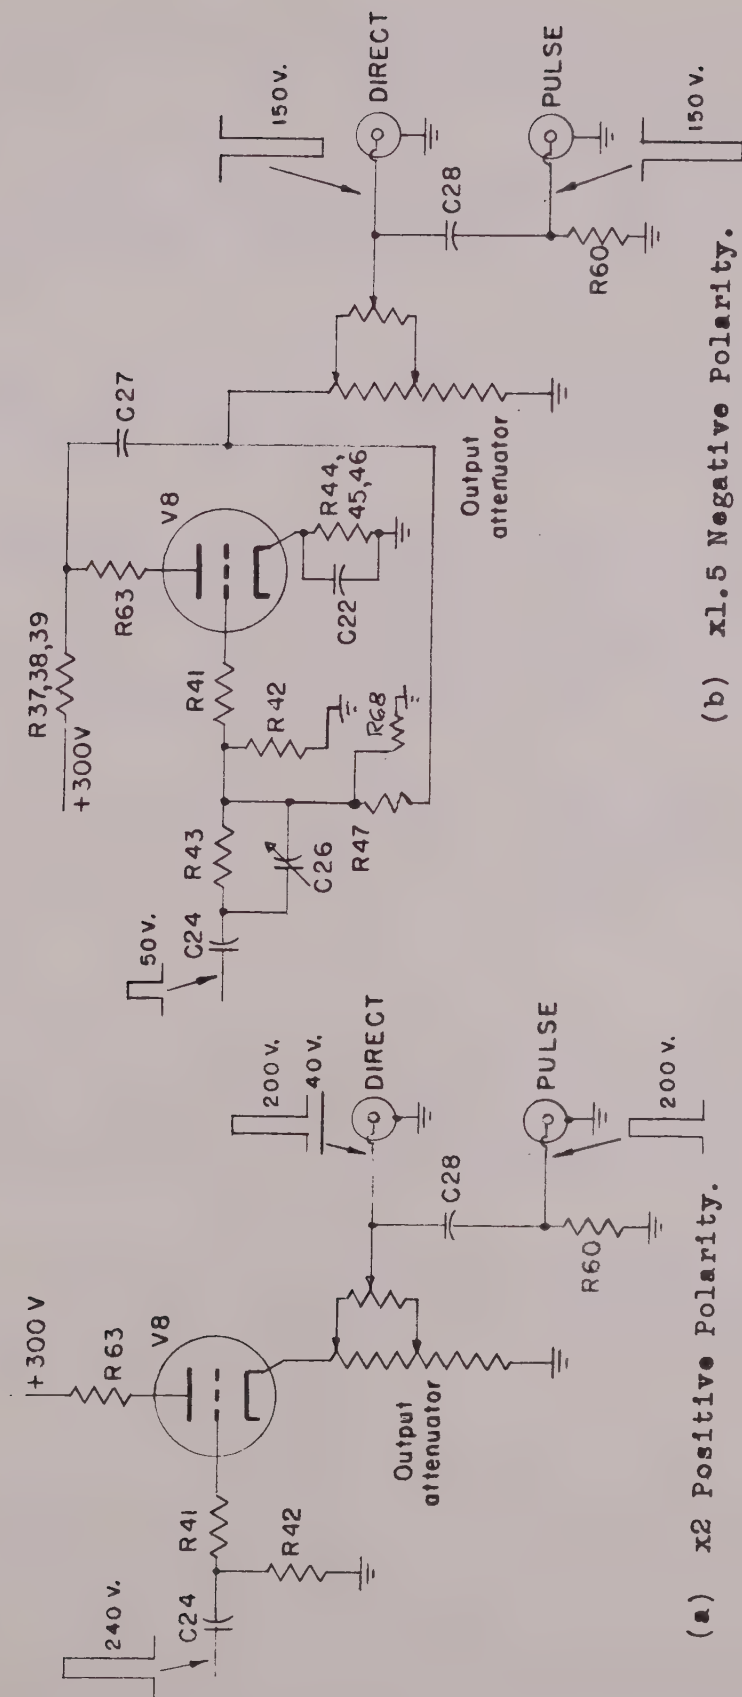

Fig. 5. Functional Schematic, Output Amplifier.
a. The output amplifier operates either as a cathode follower or straight amplifier, depending upon the desired polarity of the output pulse. A simplified circuit is shown in figure 5. During the quiescent period, the cathode of tube V8 assumes a positive potential with respect to the grid and reduces plate current to a low value.
- (1) When the polarity switch is in the positive position, figure 5 (a), this surge of plate current increases the potential drop across the output attenuator and a positive pulse is delivered to the output terminals. It will be noted that the pulse delivered to the DIRECT OUTPUT terminals is superimposed upon the d-c potential of the cathode. Capacitor C28 removes the d-c component from the pulse delivered to the PULSE OUTPUT terminals.
- (2) When the polarity switch is in the negative position, figure 5 (b), the surge of plate current drops the plate potential of tube V8 thus delivering a negative pulse through C27 to the output attenuator. In this circuit arrangement, the d-c component is removed by capacitor C27, and the pulse from either the DIRECT OUTPUT or the PULSE OUTPUT has no d-c component.